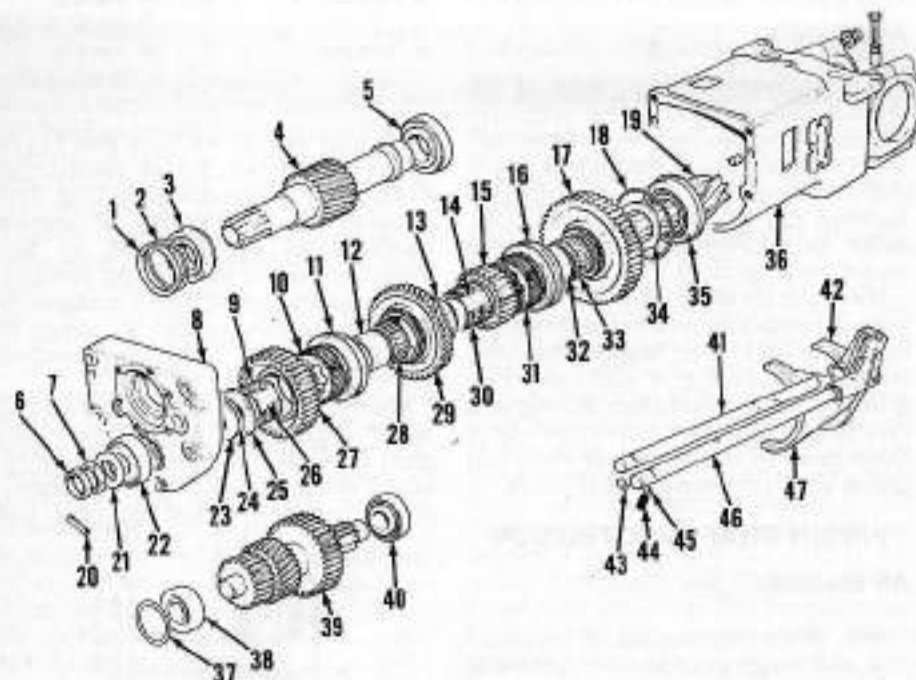

Fig. 173—Exploded view of power shift transmission showing component parts and their relative positions.
**308. POWER SHIFT RANGE GEAR BOX.** Power shift transmissions incorporate a three-speed range gear box to increase the four-speeds available from the power shift to twelve speeds. To remove range gear box, it is first necessary to remove power shift unit as outlined in paragraph 262. Disconnect and remove hydraulic supply line at power shift hydraulic pump manifold. Remove roll pin (20-Fig. 173) and noting nuts (6 and 7) are left-hand thread, remove nuts. Remove spacer (21) and bearing (22). Remove abutment plate (20-Fig. 163) and free wheel (21). Remove end plate (8-Fig. 173) retaining bolts, end plate and mounting studs. Remove thrust washer (23), note number and thickness of shims (24) and remove. Remove spacer (25). Remove second gear (27), the two needle roller bearings (9) and race (26). Remove shift rod, shift fork, sliding collar (11) and gear (10) as an assembly. Remove bear-
**311. IDLER SHAFT AND INPUT SHAFT END PLAY.** Install bearings on idler and input shafts. Install spacer (1-Fig. 173) and bearing cup MINUS shim (2) in end plate (8). Install bearing cup (38) MINUS shim (37) in end plate. Place idler shaft assembly and input shaft assembly in position in range housing, install end plate and install four bolts in place of mounting studs. Tighten bolts to 95 N·m (70 ft.-lbs.) torque.
Remove end plate (8) and install correct thickness of shims under each bearing cup to obtain 0.051-0.102 mm (0.002-0.004 inch) end play for each shaft. Make certain spacer (1-Fig. 173) is in place. Remove idler shaft and input shaft from range housing (36).
**312. PINION SHAFT ASSEMBLY.** Install thrust washer (34-Fig. 173) on pinion shaft (19) with oil grooves facing away from bearing (35). Install first gear (17), bearing (33) and race (32). Install idler shaft assembly (39) and input shaft assembly (4). Install shift interlock plug (43) in bore between shift rod holes in range housing. Install sliding collar
Pinion shaft bearing shim location for 1190, 1290 and 1390 models is (44 - Fig. 154), for 1490 and 1690 models (41 - Fig. 160) and for power shift models (18 - Fig. 173).